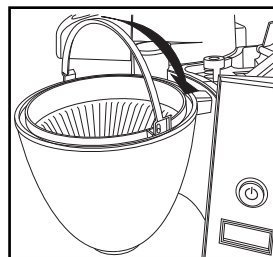
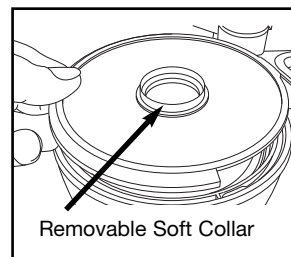

Fig. 4
Fig. 5
- Remove the carafe from the pedestal, replace the Filter Holder Insert (Fig. 4) and insert the Goldtone Filter. Make sure to place the Cover Lid correctly on top of the Filter Holder Insert (Fig. 5).